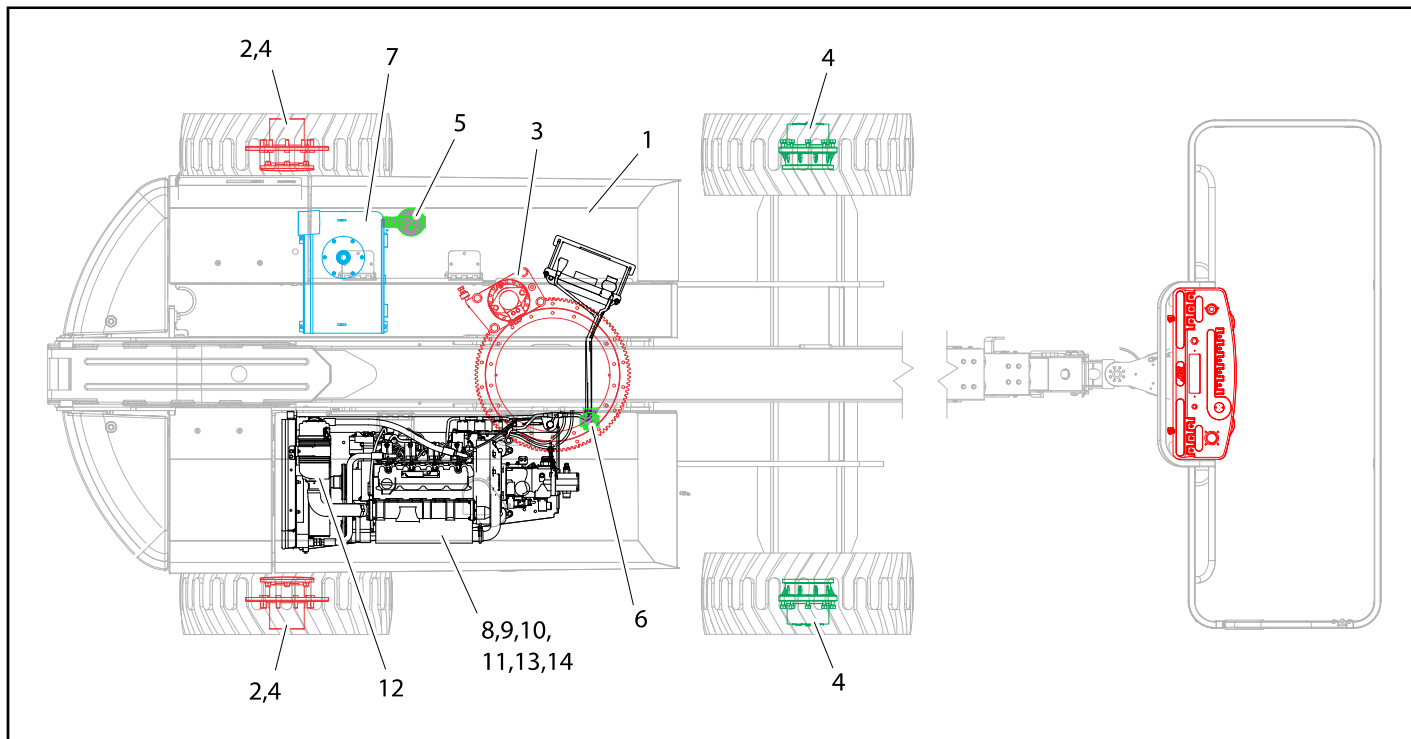

Figure 6-6. Operator Maintenance & Lubrication Diagram
**NOTE:** The following numbers correspond to those in Figure 6-6., Operator Maintenance & Lubrication Diagram.